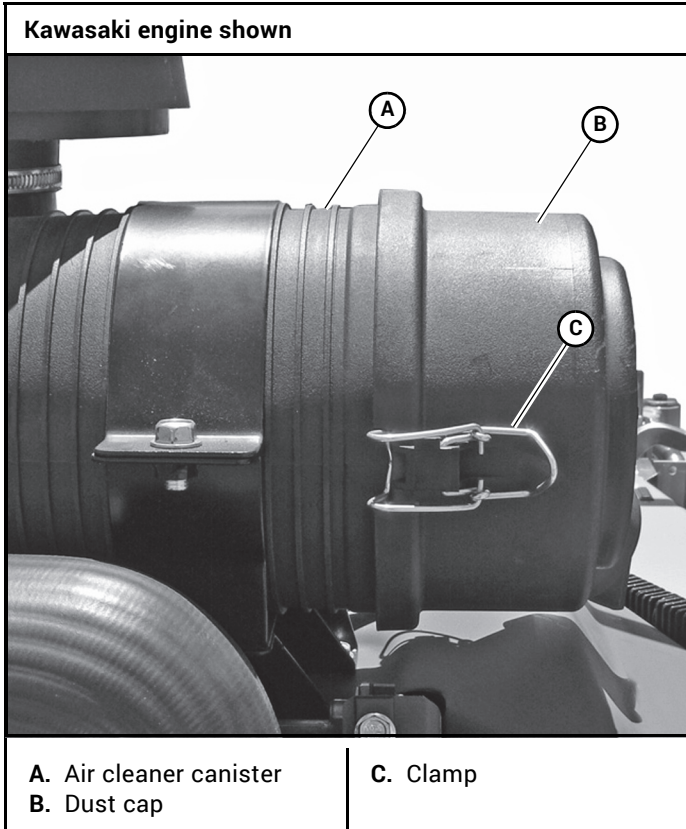
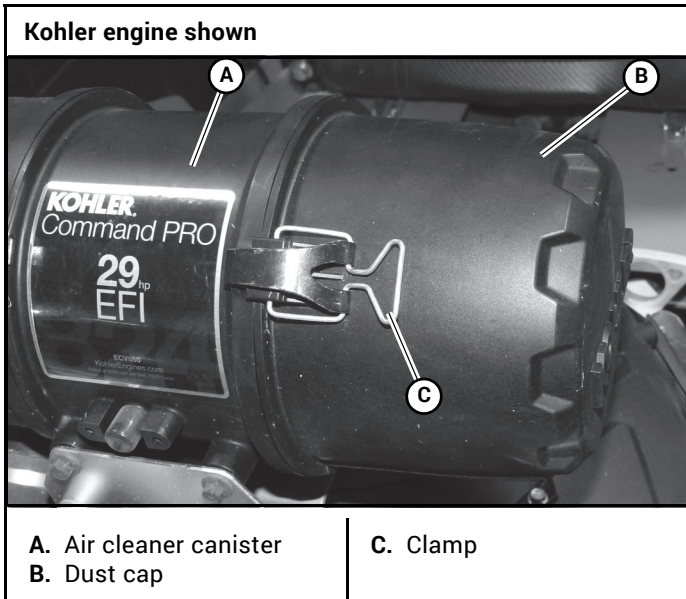

Figure 7-13
Figure 7-14
3. Reinstall the dust cap. Make sure it seals all the way around the air cleaner canister, then tighten the clamps. Figure 7-13 & Figure 7-14